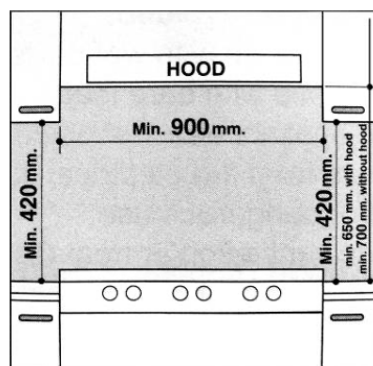

Fig. 5
- c) The cabinets should be positioned near to the hood at a height of 420 mm at least (Fig. 5).